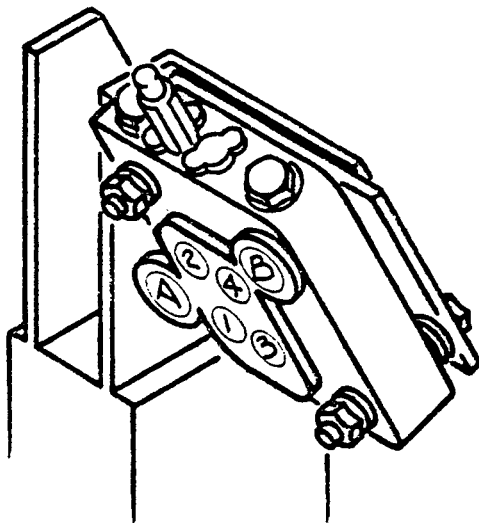

FIG. 2
5. Install four 9/16-18 ORB x 1/4 NPTF swivel unions into the working ports of the valve. These ports are shown in Figure 2 as ports 1, 2, 3, and 4.
6. Install two 9/16-18 ORB x 3/8 NPTF swivel unions into the pressure and return ports of the valve. These ports are shown in Figure 2 as ports A and B.
7. Connect the hoses as indicated below, and shown in Figure 2.